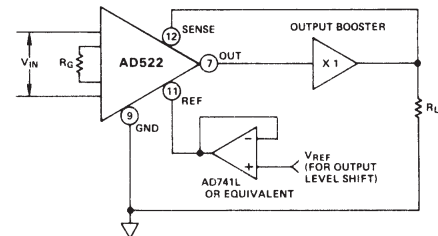

Figure 7. Output Current Booster and Buffered Output Level Shifter
**Sense Output:** A sense output is provided to enable remote load sensing or use of an output current booster. Figure 7 illustrates these applications. Being "inside the loop", booster drift errors are minimized. When not used, the sense output should be tied to the output.
**Reference Output:** The reference terminal is provided to permit the user to offset or "level shift" the output level to a datum compatible with his load. It must be remembered that the total output swing is  $\pm 10$  volts to be shared between signal and reference offset. Furthermore, any reference source resistance will unbalance the CMR trim by the ratio  $10k/R_{ref}$ . For example, if the reference source impedance is  $1\Omega$ , CMR will be reduced to 80dB ( $10k\Omega/1\Omega = 10,000 = 80dB$ ). A buffer amplifier can be used to eliminate this error, as shown in Figure 7, but the drift of the buffer will add to output offset drift. When not used, the reference terminal should be grounded.